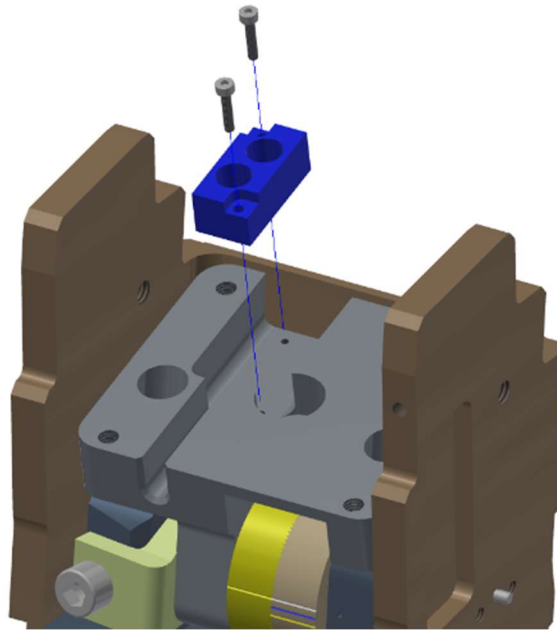

Figure 6-56. Attach tilt sensor (SA572-S44) to neck posture adjustment assembly (474-3050)
- 6.3.25 Secure the Dual Axis Tilt Sensor (SA572-S44) to the Neck Interference Plate (474-3058) using two M2 X 0.4 X 10 SHCS (Figure 6-56).